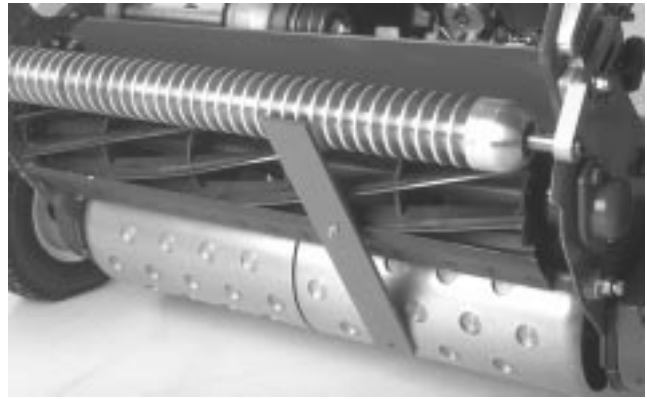

Figure 16
4. Hook the screw head on the cutting edge of the bedknife and rest the rear end of the bar on the rear roller (Fig. 16).